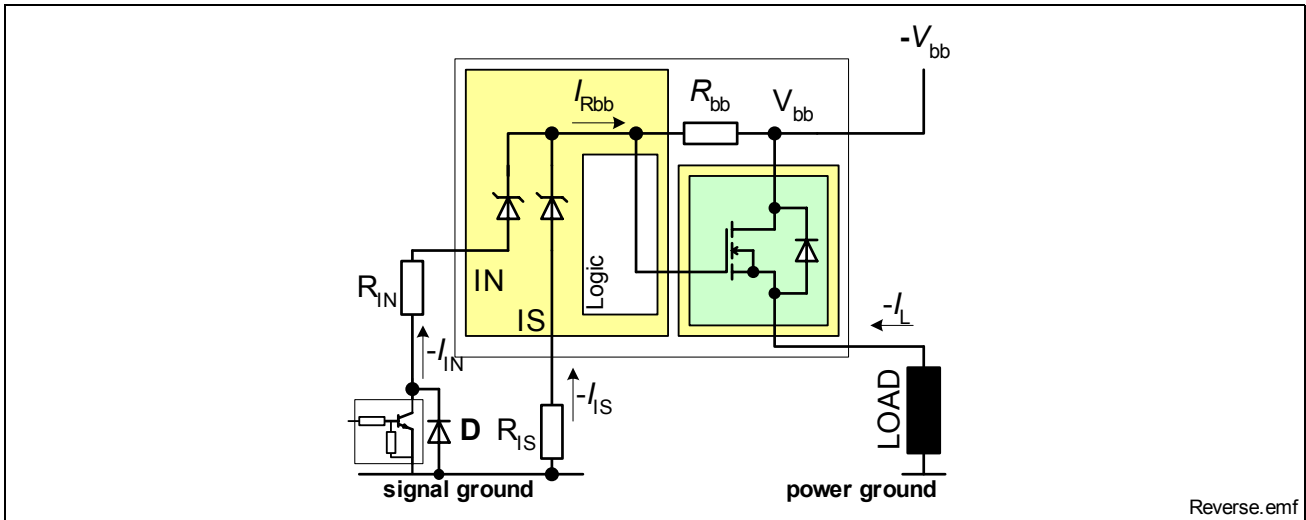

Figure 14 Reverse battery protection
- ³⁾ Slew rate limitation can be achieved by means of using a series resistor for the small signal driver or in series in the input path. A series resistor R_{IN} in the input path is also required for reverse operation at $V_{bb} \leq -16V$. See also Figure 14.
The device can not block a current flow in reverse battery condition. In order to minimize power dissipation, the device offers Reversave™ functionality. In reverse polarity condition the channel will be switched on provided a sufficient gate to source voltage is generated $V_{GS} \approx V_{Rbb}$. Please refer to **Figure 14** for details.